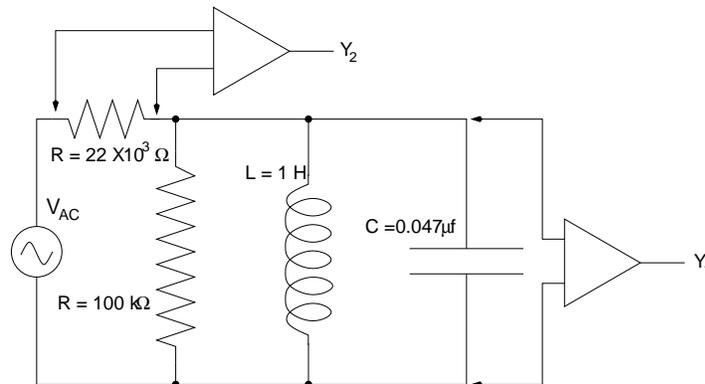

Figure 4: A parallel LRC test circuit.
Since V is the same for all the parallel elements, the **relevant phase differences are between the currents**. To measure the total current I_{rms} and the phase between it and the voltage V_{rms} , we will insert a $22 \text{ k}\Omega$ sampling resistor R_S in series with the signal generator. See Figure 4.
1. Hook up the circuit plug board as in Fig. 4 and again trigger the scope externally from the signal generator. (We chose a large $R = 100\text{ k}\Omega$ circuit resistance to limit the resonant current and thus enhance sensitivity.)